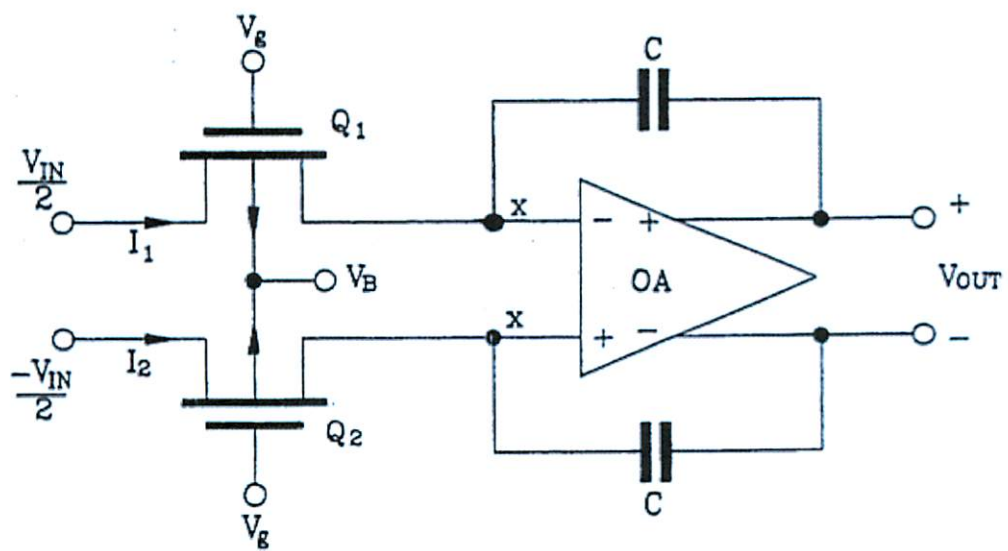

Figure 4.2
- (c) (i) Show how the two transistor differential integrator shown in Figure 4.2 can be modified to create a double differential integrator. Sketch the new circuit and derive the time constant.